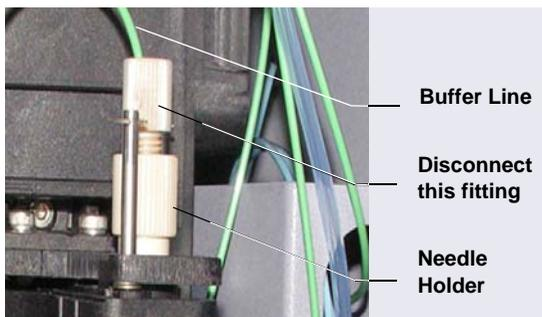

Figure D-2. Buffer Line Connected to the Needle
- b. To prevent twisting of the needle, hold the needle holder (see Figure D-2) with one hand and then disconnect the buffer line from the needle.